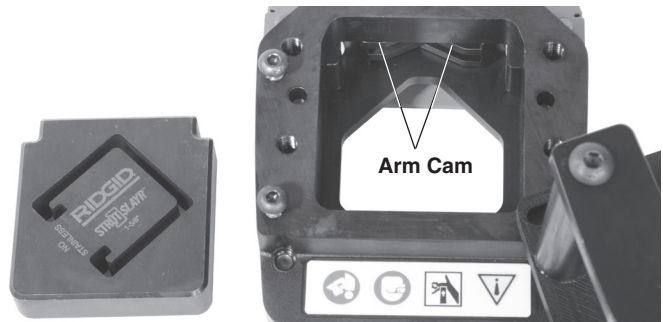

Figure 4 – Lubricating the Strut Shear Head
3. Apply a thin coat of general-purpose grease to all sides of the moving die. Liberally apply grease to the arm cams. (Figure 4)